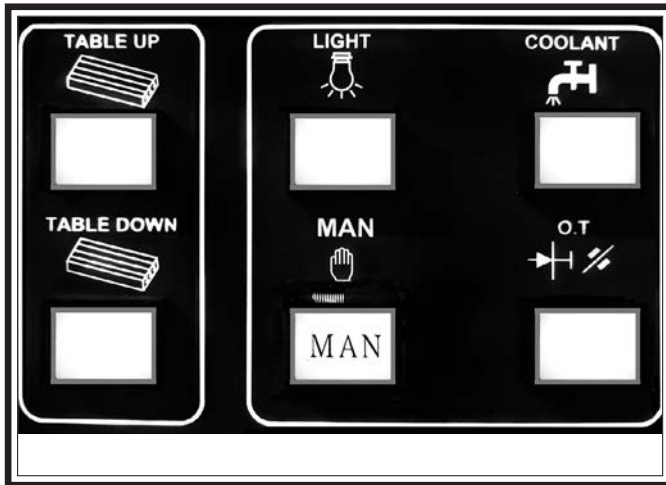

Figure 15. Basic push button controls.
9. Press TABLE UP and TABLE DOWN buttons (see **Figure 15**). The buttons should be inoperative indicating that EMERGENCY STOP button successfully shuts **OFF** all motor functions.
13. Verify that machine goes into Manual DRO Mode; flip plastic switch cover open and press MAN button (see **Figure 15**).
18. Point coolant nozzle toward chip pan, and test pump operation by pushing COOLANT button (see **Figure 15**). During operation, adjust coolant flow by moving flow lever (see **Figure 1**) to various positions.
21. Turn work lamp **ON** at back of lamp shroud (see **Figure 7, View R**), and then press **LIGHT** button shown in (see **Figure 15**).